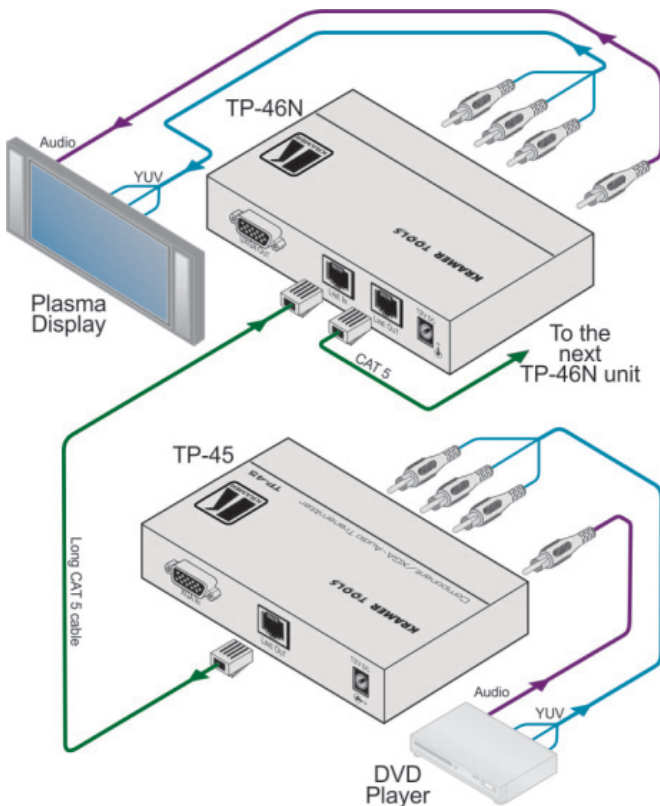

Figure 3: Distribution System, Component Video Mode
To configure a **TP-46N** component/UXGA/audio distribution system in the component video mode (using up to 300ft (100m) of UTP cabling), as shown in Figure 3, do the following:
6. Connect the 12V DC power adapter to the power socket and connect the adapter to the mains electricity on both the **TP-45/TP-45RC** and the **TP-46N** (not shown in Figure 3).